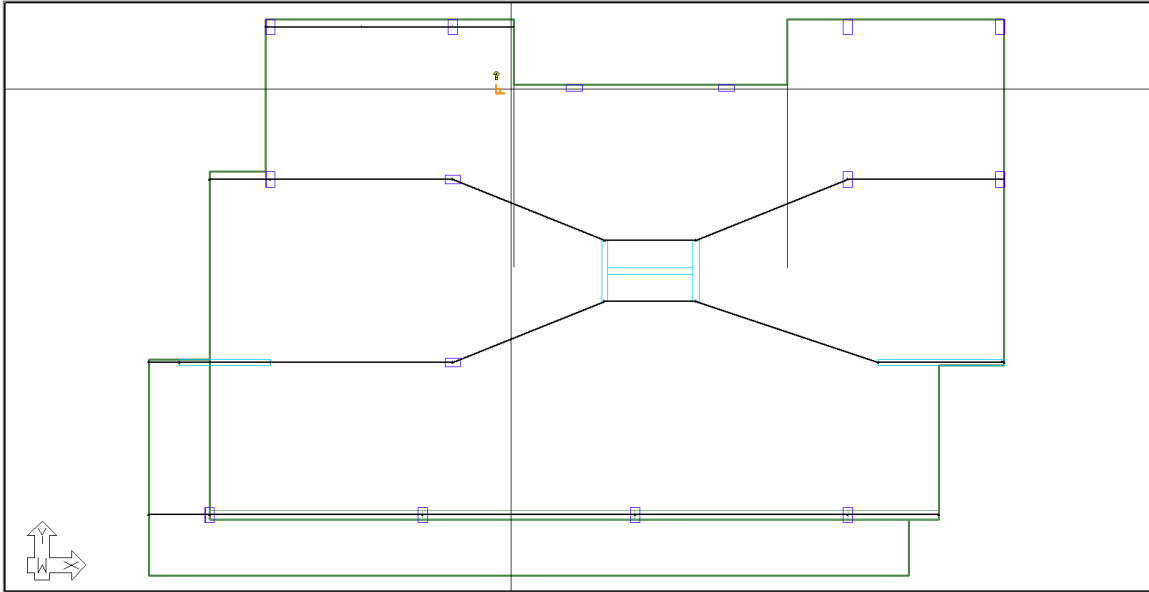

FIGURE 9-16
- Hover your mouse over the first construction line we entered as shown in **FIGURE 9-16**.